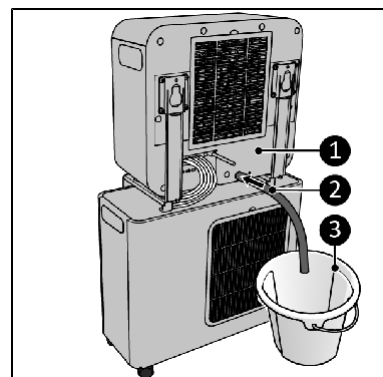

Figure 11
6. Connect the condensate drain hose (Fig. 11, Ref. 2) to the rear of the indoor unit (Fig. 11, Ref. 1).
7. Direct the hose towards a suitable collection container, such as a bucket (Fig. 11, Ref. 3).
2. Connect the condensate drain hose (Fig. 11, Ref. 2) to the rear of the indoor unit, then route it towards a suitable collection container, such as a bucket (Fig. 11, Ref. 3).